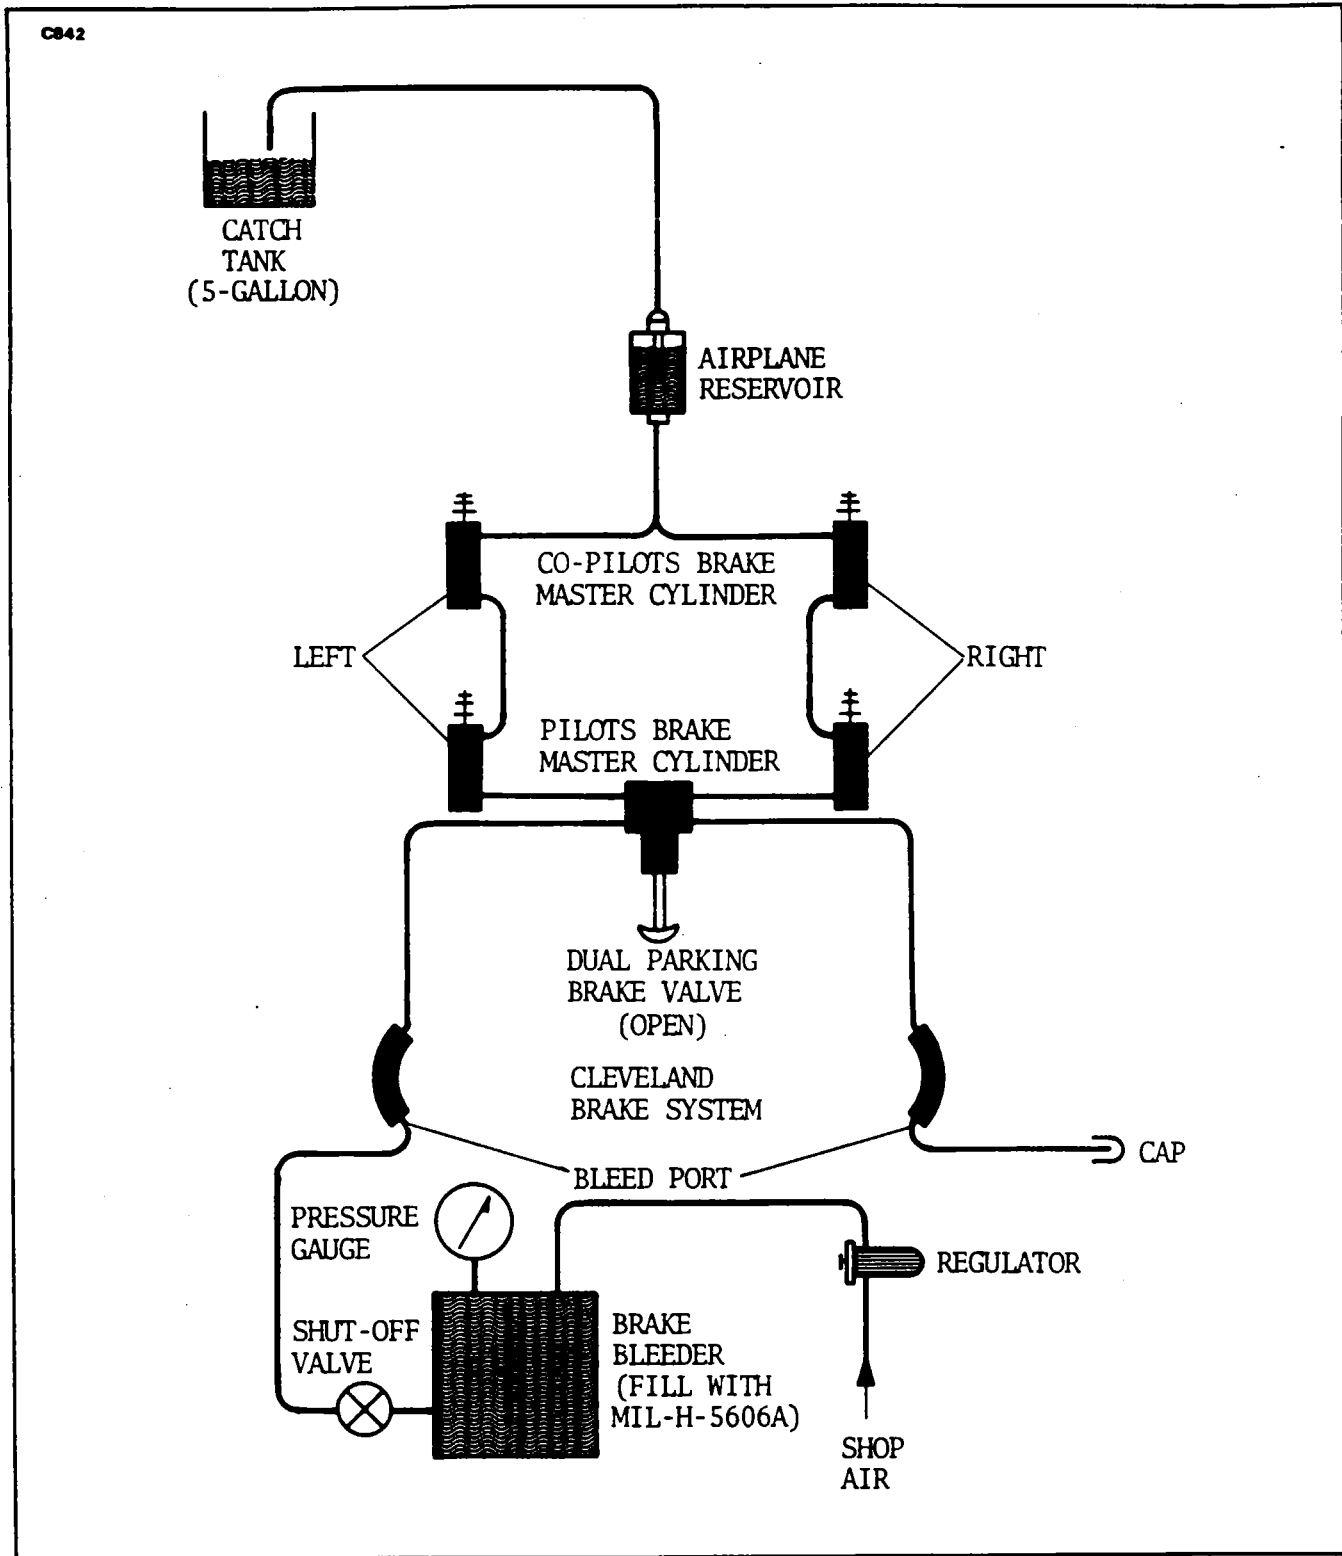

Figure 32-22. Bleeding Brake (Pressure Pot)
3. Slide a hose over the bleeder fitting, loosen the fitting one turn and pressure fill the brake system with MIL-H-5606 fluid. (Refer to Figure 32-22.)